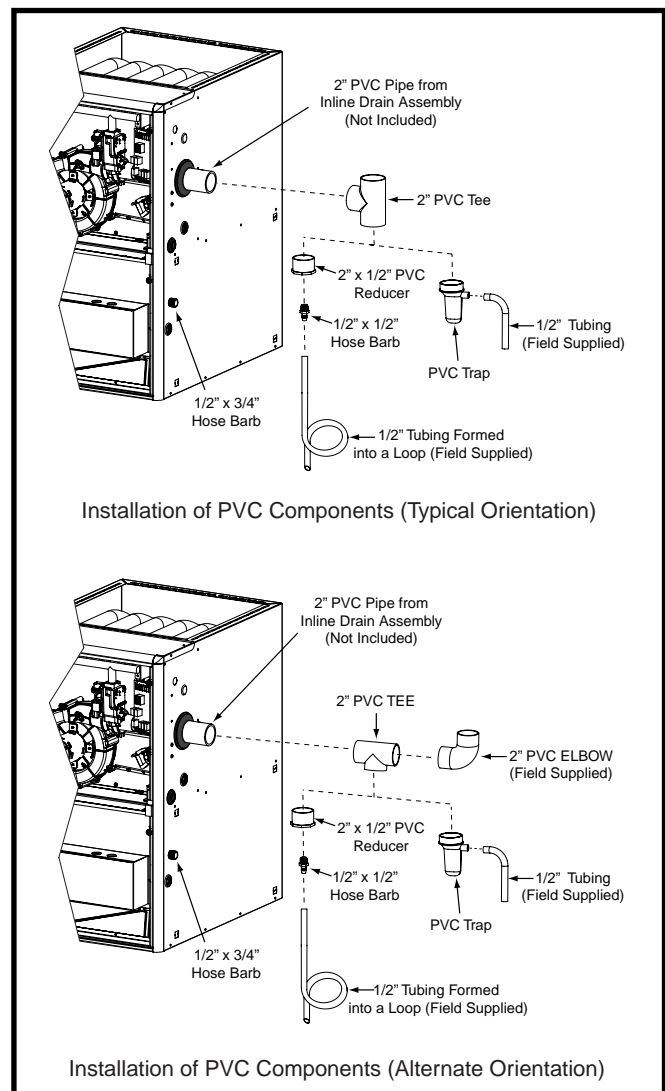

Figure 17. PVC Components
- The 2" PVC pipe shown in Figure 17 is not provided in the extra parts bag.
The 2" PVC Tee and Trap shown in Figure 17 are used when the inducer is rotated to vent out thru the left or right side of the furnace cabinet.
1. Install the PVC Tee vertically on the 2" vent pipe that is extending out the side of the cabinet. Permanently bond them together using appropriate primer and cement. Refer to the typical orientation shown in Figure 17.
1. Install the 2" PVC Tee horizontally on the 2" vent pipe that is extending out the side of the cabinet. Permanently bond them together using appropriate primer and cement. Refer to the alternate orientation shown in Figure 17.